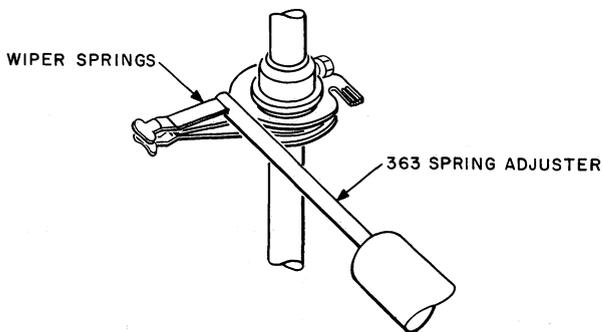

Fig. 10 — Method of Adjusting for Clearance Between Wiper Springs
(2) To adjust the distance between the wiper springs at the point where the straight portion forms into the hub end, proceed as follows. On springs that are not of the replaceable type, apply the spring adjuster to the spring as shown in Fig. 10. On springs of the replaceable type, apply the KS-7782 pliers to the same point.